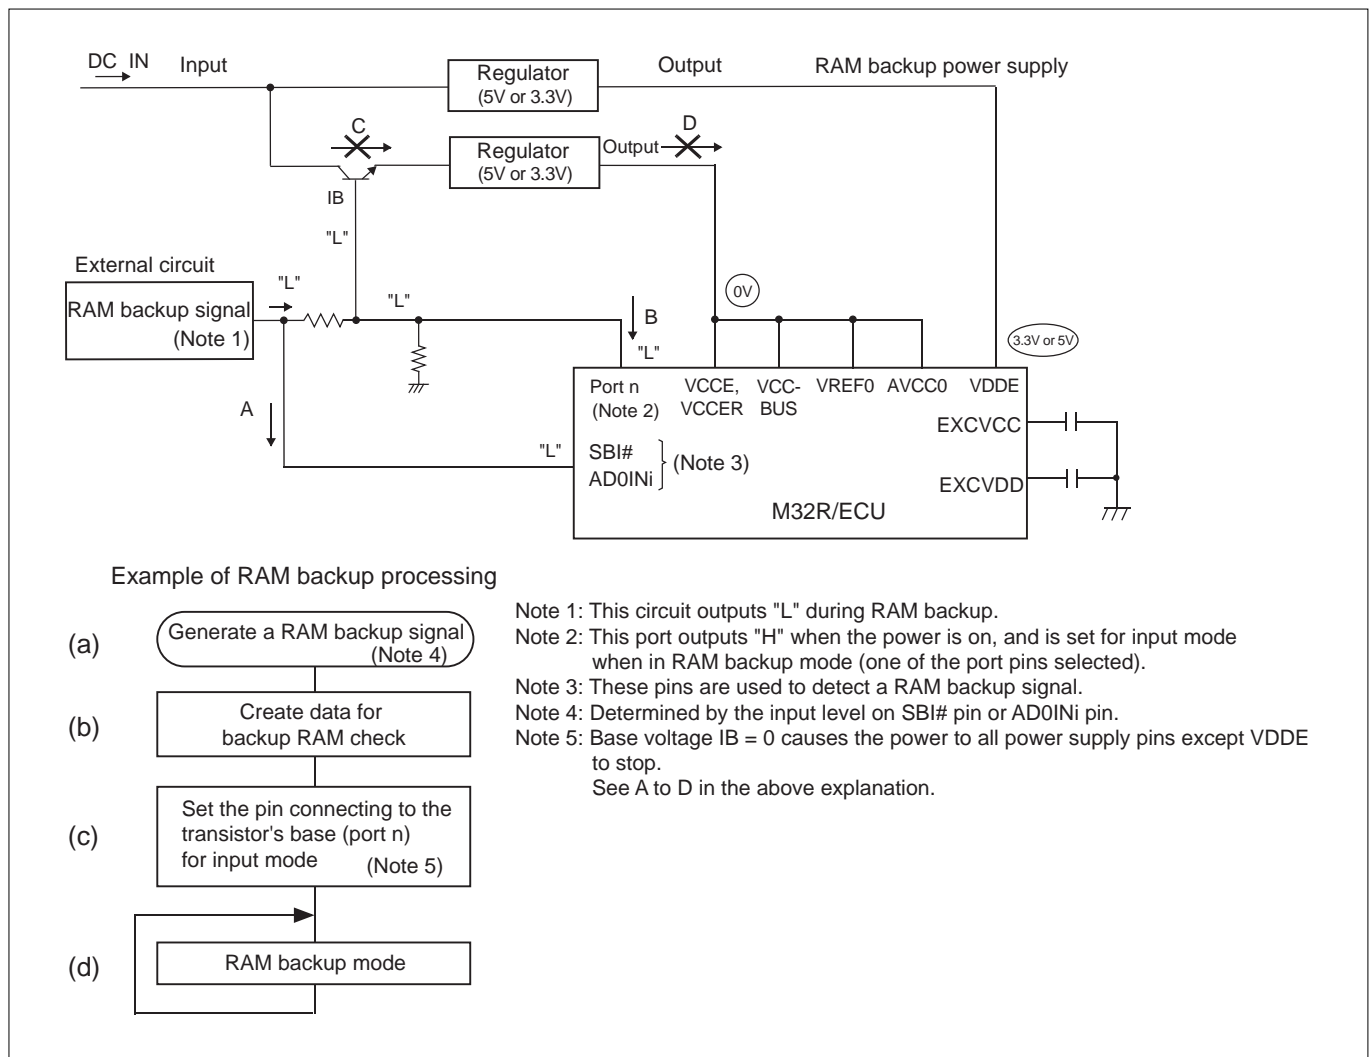
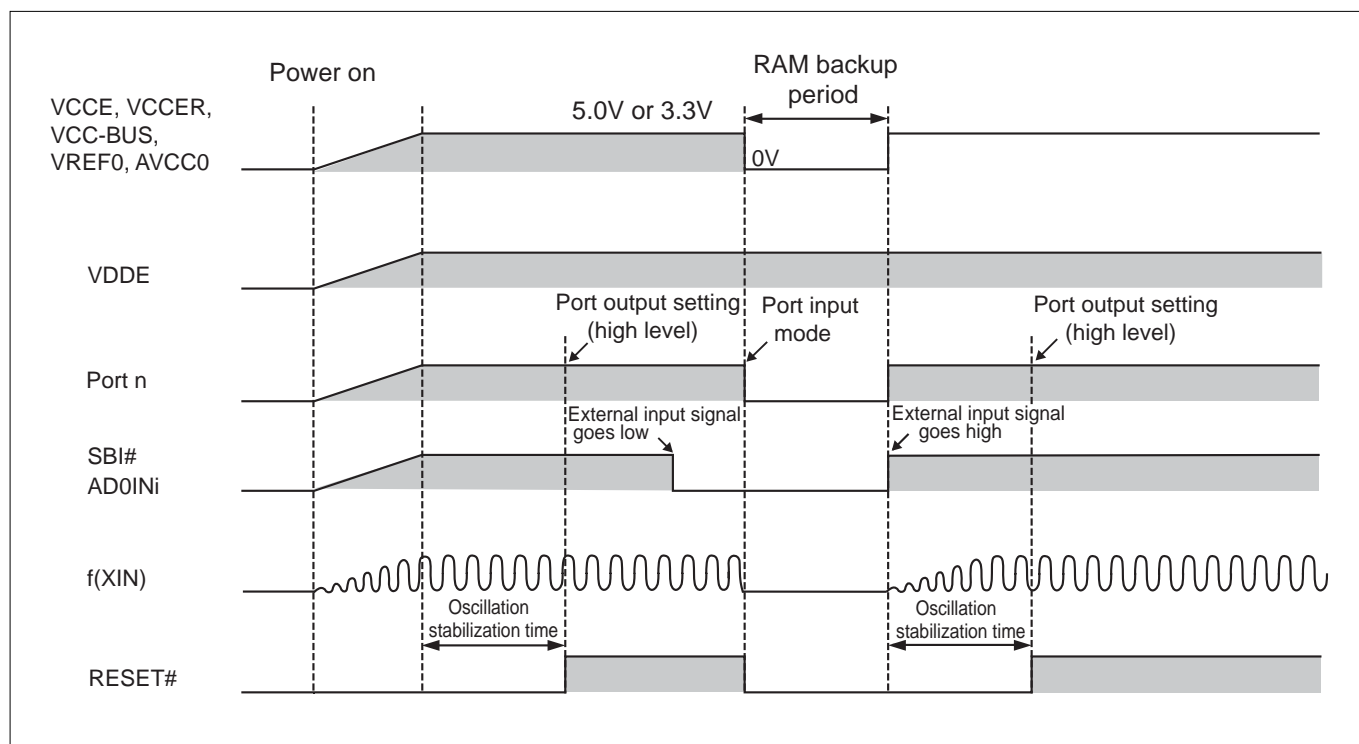

Figure 19.3.3 RAM Backup State for Low Power Operation
Figure 19.3.4 Example of a RAM Backup Sequence for Low Power Operation
Figure 19.3.3 shows the RAM backup state of the M32R/ECU. Figure 19.3.4 shows a RAM backup sequence. When the external circuit outputs "L," input on the SBI# or AD0INi pin is pulled "L." "L" on these input pins generates a RAM backup signal (A and (a) in Figure 19.3.3). To enable RAM backup mode, make the following settings:
- (1) Create data for RAM check to verify after returning from RAM backup mode to normal mode whether the RAM data has been retained normally ((b) in Figure 19.3.3).
- (2) To materialize low-power operation, set all programmable input/output pins except port n for input mode (or for output mode, with the output level fixed "L") ((c) in Figure 19.3.3).
- (3) Set port n for input mode (B and (d) in Figure 19.3.3). This causes the transistor's base voltage, I_B , to go "L," so that the power to all power supply pins except VDDE is shut off (C and D in Figure 19.3.3).
By settings in (1) to (3), the VDDE pin voltage goes to 3.0–5.5 V and all other pin voltages drop to 0 V, and the M32R/ECU is thereby placed in RAM backup mode ((d) in Figure 19.3.3).